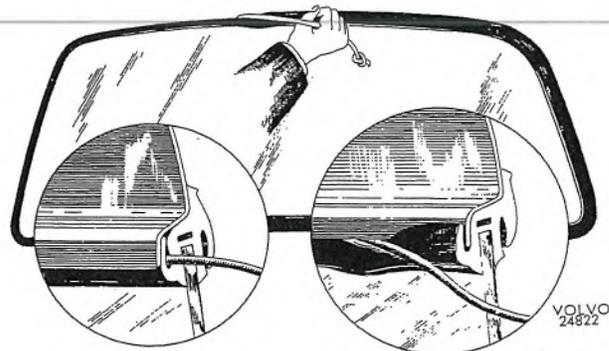

Fig. 8-41. Fitting windshield and rear quarter window
4. Set the windshield with rubber stripping in position. Carefully tap several blows with the palm of the hand (with glove on) so that the windshield sits well all round. From the inside carefully take off the cord. This causes the rubber stripping to cover the plate edge (Fig. 8-41). Sometimes it may be necessary to adjust the location of the windshield with the palm of the hand. If the cord is too stiff, there is risk of the stripping being damaged. This can be remedied by striking with the palm of the hand from the inside or vice versa if the rubber strip does not cover the edge of the plate properly.
3. Place the rear quarter window with rubber strip in position. Wearing working gloves, carefully strike the window a few blows with the palm of the hand to ensure that it makes good contact all round. Carefully pull out the cord from inside. This will cause the rubber strip to "creep" over the sheet-metal edge as shown in Fig. 8-41. It may sometimes be necessary to adjust the position of the window with the palm of the hand. If the cord feels stiff to pull out, there is risk of damage to the strip, and to avoid this, strike the window from inside with the palm of the hand and vice versa if the rubber strip does not "creep" over the edge of the sheet-metal properly.